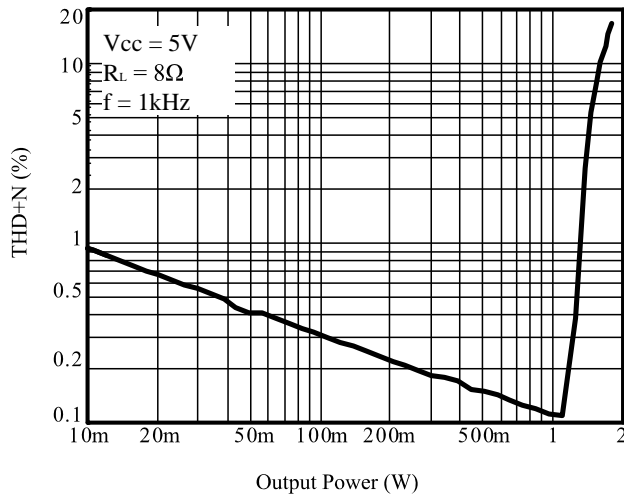

Figure 2 THD+N vs. Output Power
As shown in Figure 2, the IS31AP4088D consists of two pairs of operational amplifiers, forming a two-channel (channel A and channel B) stereo amplifier. External feedback resistors R_2 , R_4 and input resistors R_1 and R_3 set the closed-loop gain of Amp A (-out) and Amp B (-out) whereas two internal 20k Ω resistors set Amp A's (+out) and Amp B's (+out) gain at 1. The IS31AP4088D drives a load, such speaker, connected between the two amplifier outputs, -OUTA and +OUTA.
Figure 2 shows that Amp A's (-out) output serves as Amp A's (+out) input. This results in both amplifiers producing signals identical in magnitude, but 180° out of phase. Taking advantage of this phase difference, a load is placed between -OUTA and +OUTA and driven differentially (commonly referred to as "bridge mode"). This results in a differential gain of
Amplifying the lowest audio frequencies requires high value input coupling capacitors (C_1 and C_2) in Figure 2. A high value capacitor can be expensive and may compromise space efficiency in portable designs. In many cases, however, the speakers used in portable systems, whether internal or external, have little ability to reproduce signals below 150 Hz. Applications using speakers with this limited frequency response reap little improvement by using large input capacitor.
As shown in Figure 2, the input resistors (R_1 and R_3) and the input capacitors (C_1 and C_2) produce a -3dB high pass filter cutoff frequency that is found using Equation (7).
As an example when using a speaker with a low frequency limit of 150Hz, C_1 , using Equation (7) is 0.053 μ F. The 0.33 μ F C_1 shown in Figure 2 allows the IS31AP4088D to drive high efficiency, full range speaker whose response extends below 30Hz.